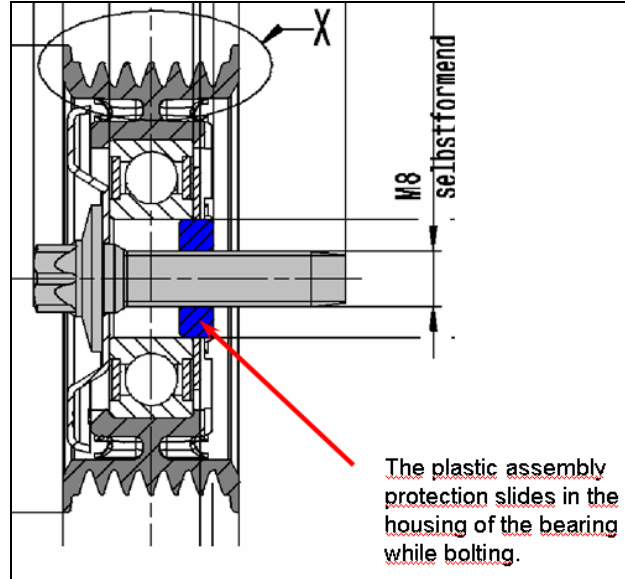

Figure 2
**i** **Note: Revised instruction:** It is **not** necessary to remove the spacer before installation. The black plastic retainer will assist in centering the flat spacer washer and pulley on the mounting lug (Figure 2).